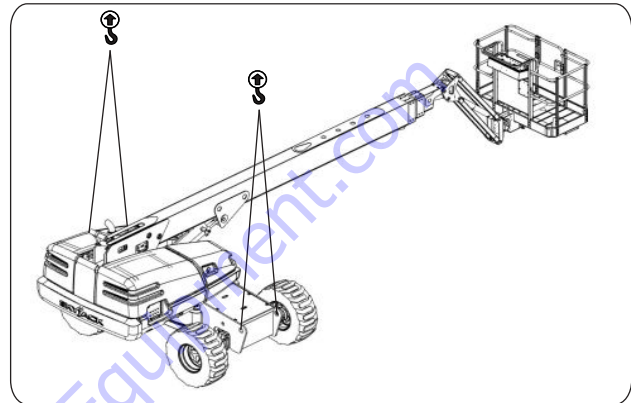
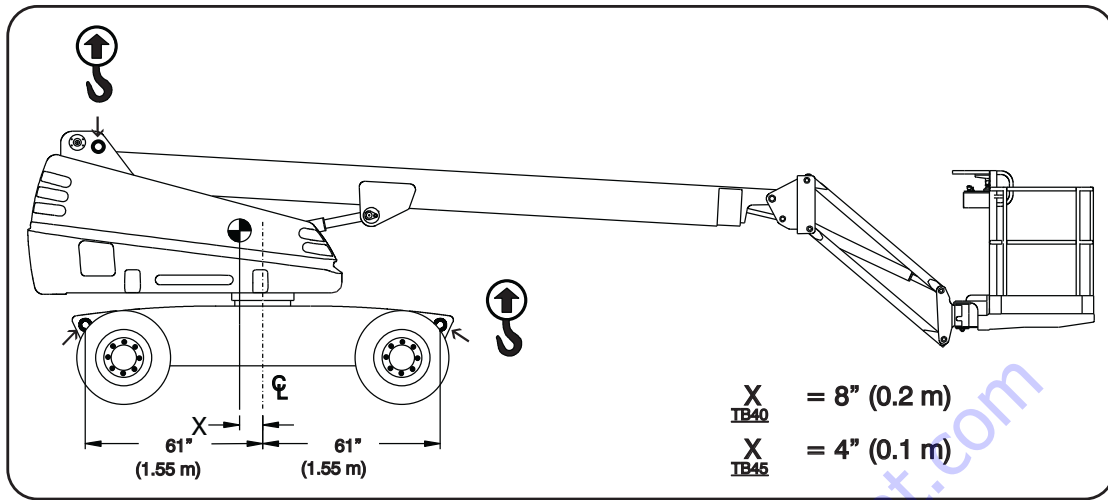
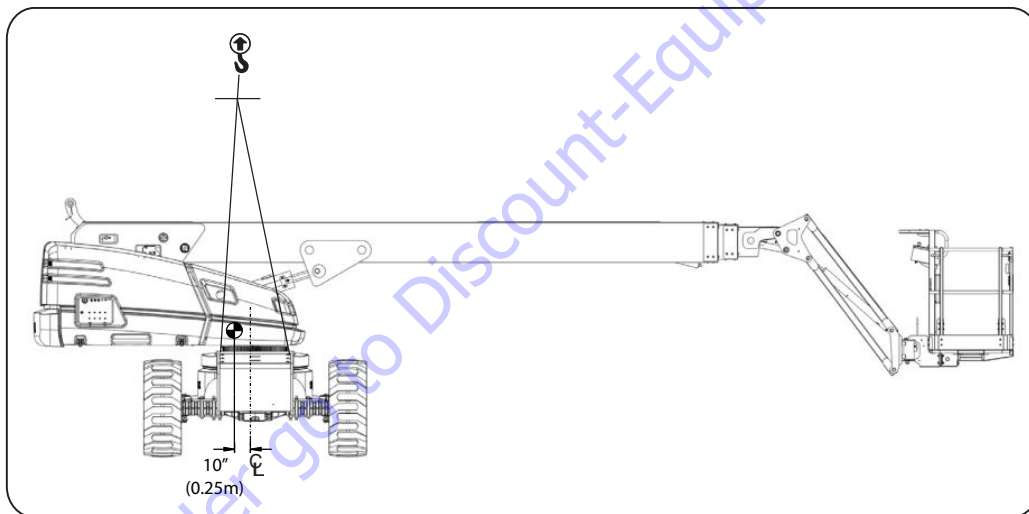

Figure 19 SJ61 T+/SJ66 T+ Lift points
Figure 20 SJ40 T+ / SJ45 T+ lift points and approximate center of gravity
Figure 21 SJ61 T+ / SJ66 T+ lift points and approximate center of gravity
1. Rotate the boom and position the MEWP as shown in Figure 20 for SJ40 T+/SJ45 T+ or Figure 19 for SJ61 T+/SJ66 T+.
When you hoist the MEWP, the lifting devices must be attached to the designated lift points only. Refer to Figure 20 for SJ40 T+/SJ45 T+ or Figure 19 for SJ61 T+/SJ66 T+.
4. Attach the rigging to all four lift points as shown in Figure 20 for SJ40 T+/SJ45 T+ or Figure 19 for SJ61 T+/SJ66 T+.
5. Adjust the rigging to make sure the MEWP stays level when you hoist it. Refer to Figure 20 for SJ40 T+/SJ45 T+ or Figure 21 for SJ61 T+/SJ66 T+ for the center of gravity location.
Horizontally, the **center of gravity** is approximately in the middle of the MEWP, front to rear and side to side. Refer to Figure 20 for SJ40 T+ / SJ45 T+ or Figure 1921 for SJ61 T+ / SJ66 T+. Vertically, the center of gravity is approximately a small distance above the chassis.